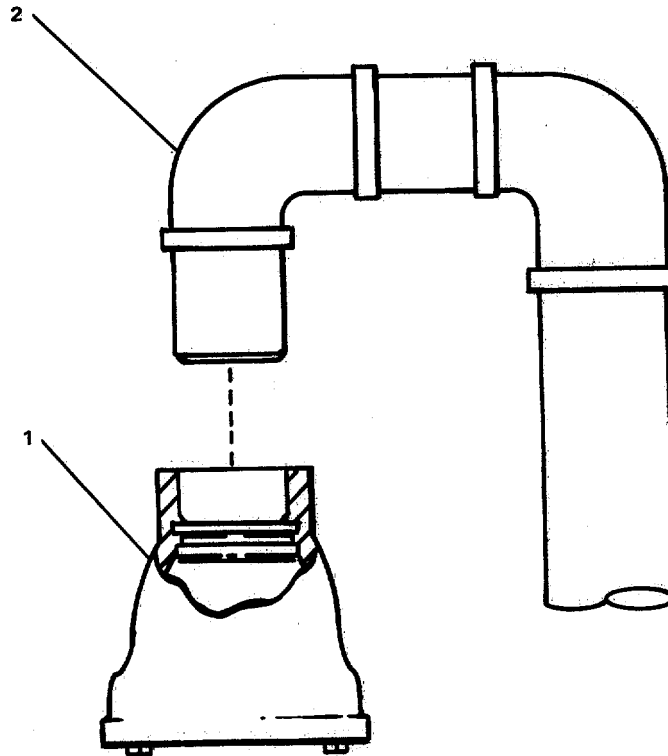

FIGURE 3-204. *Repair Vent Valve (Typical).*
**3-216. Replace/Repair Vent Valve. (Figure 3-204)**